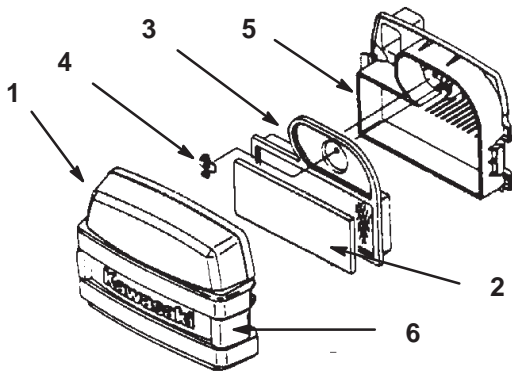

Figure 20
2. Clean around the air cleaner to prevent dirt from getting into the engine and causing damage. Unlatch the two side latches and remove the air cleaner cover (Fig. 20).
3. Carefully remove the foam element from the paper element (Fig. 20).
4. Unscrew the wing nut and remove the paper element (Fig. 20).
1. Carefully slide the foam element into the paper air cleaner element (Fig. 20).
2. Place the air cleaner assembly onto the air cleaner base and install the wing nut (Fig. 20).
3. Install the air cleaner cover and latch it (Fig. 20).